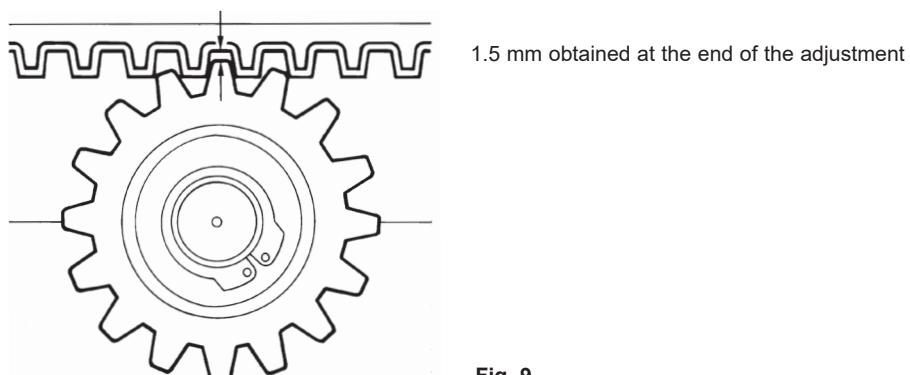

Fig. 9
- There should be a clearance of 1.5 mm. between the pinion and rack over the whole length of the gate (Fig. 9). To adjust the clearance between the pinion and the rack, refer to paragraph "6 - Operator height adjustment and fixing".